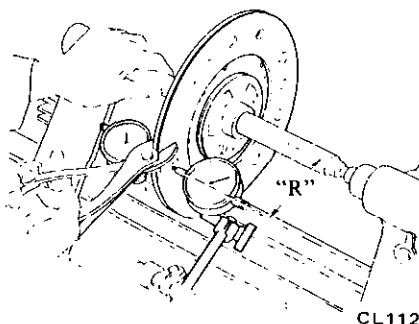

Fig. CL-4 Repairing disc runout
4. If runout exceeds the specified value at the outer circumference, replace or repair disc. See Figure CL-4.